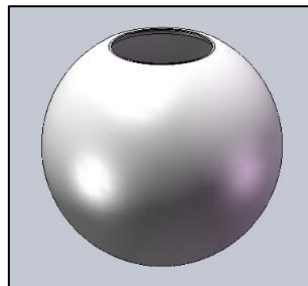

FIG. 5 ACRYLIC GLOBE
2. ACRYLIC GLOBE. (shown in FIG. 5)